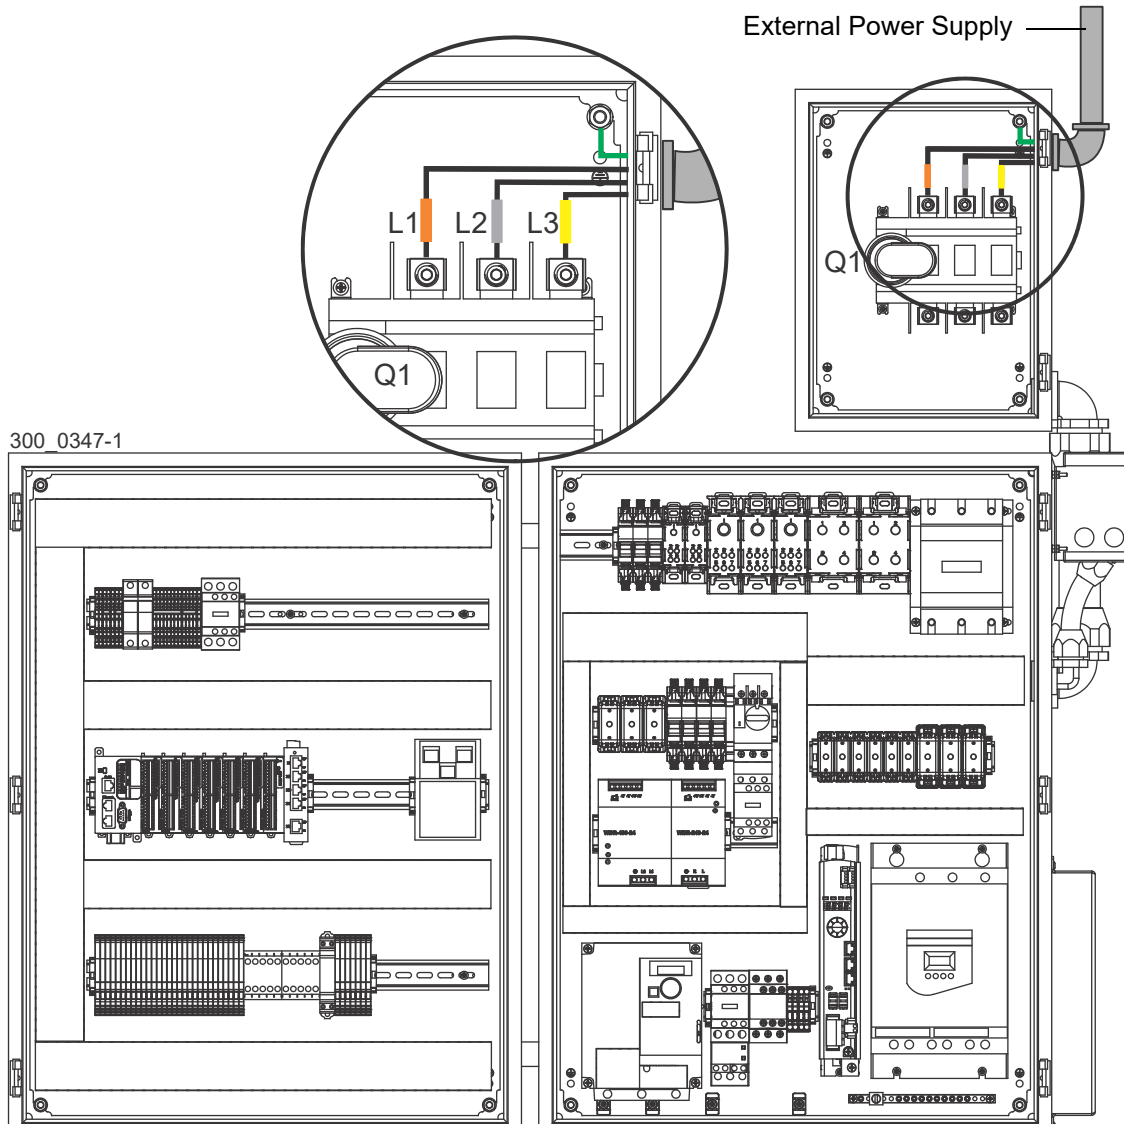

FIG. 3-19
3. Route the incoming power supply from the disconnect switch to the disconnect box, as shown in Figure 3-19.
4. Connect the power lines to terminals L1, L2 and L3 on the disconnect labeled Q1, as shown in Figure 3-19.
See Figure 3-19.